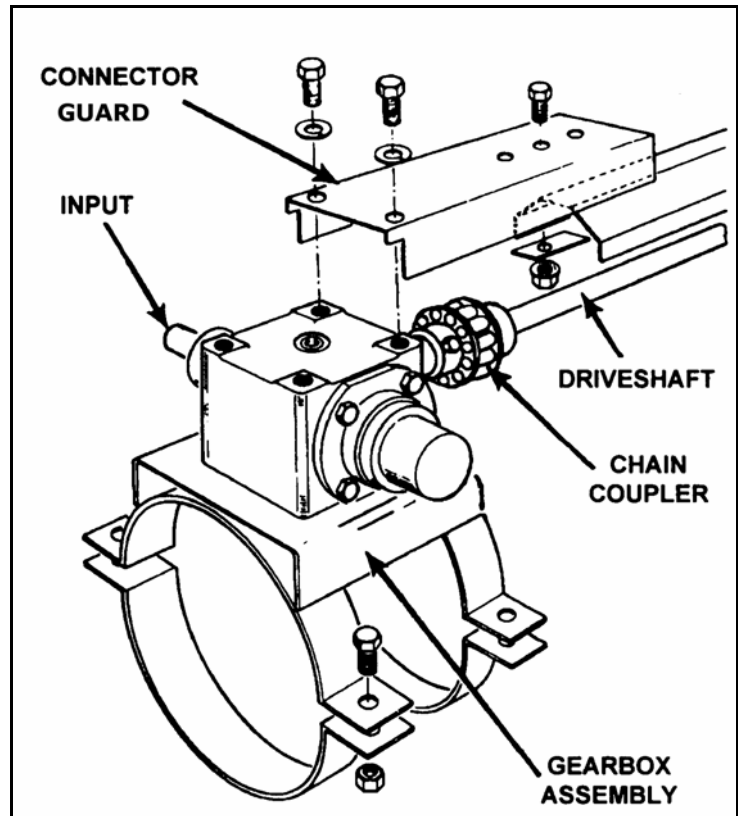

Figure 3.7
See Figure 3.7.
- a. Attach shield to gearbox as shown in Figure 3.7 and 3.8 with two 3/8" x 3/4" bolts and lockwashers.